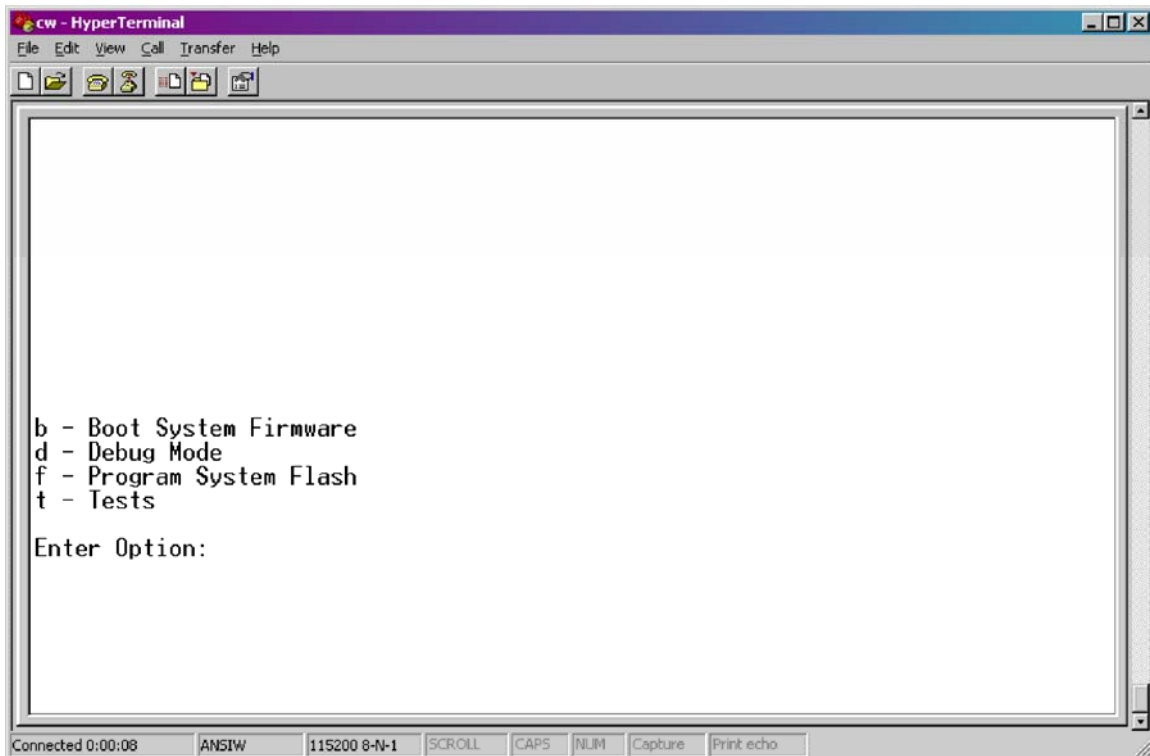
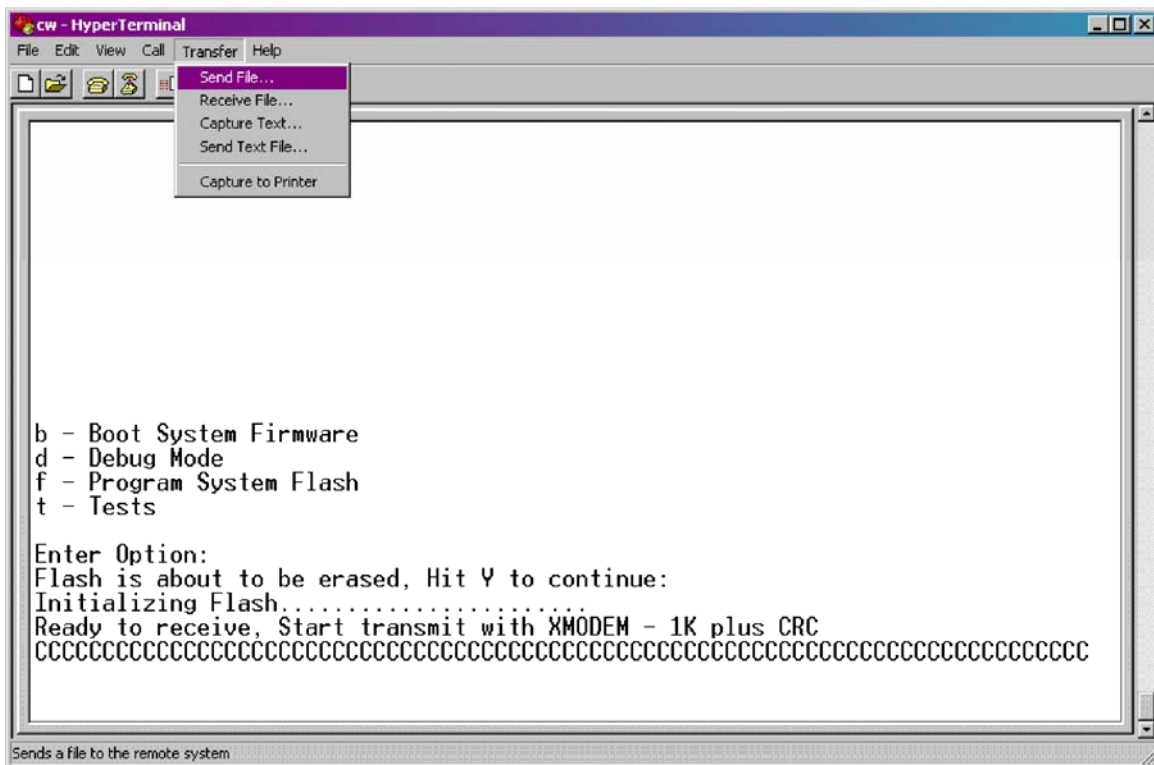
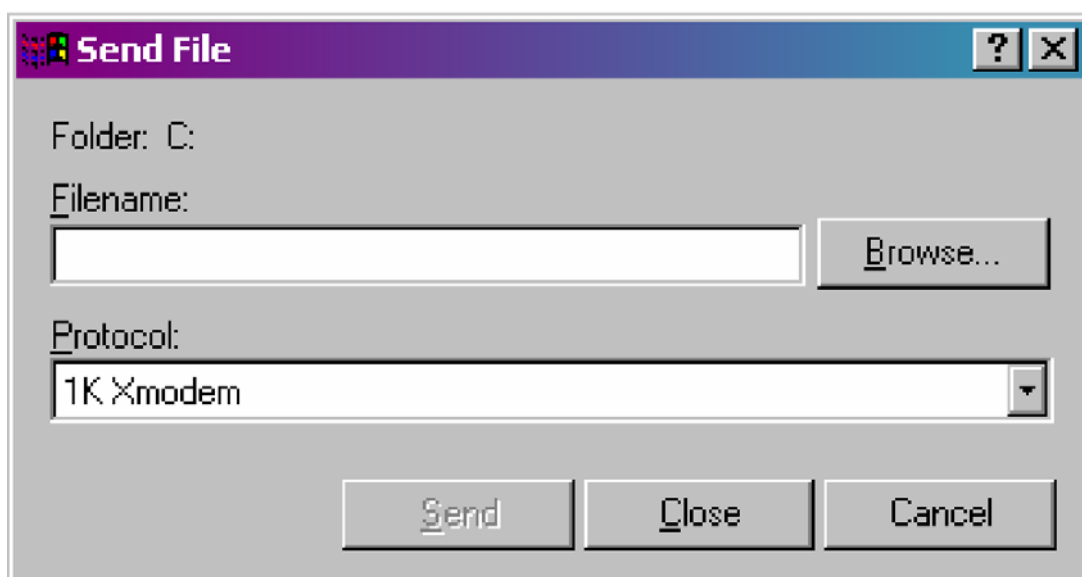

Figure 2-27 - HyperTerminal Recovery Mode Menu
**Figure 2-28 - HyperTerminal FLASH Download Menu
**Figure 2-29 - HyperTerminal Flash Download
4. From the HyperTerminal Recovery Mode menu (Figure 2-27), press the 'F' key, to enter FLASH download. A message will be displayed warning that the FLASH is about to be erased; press the 'Y' key at the prompt. The screen will display dots as the flash devices are being erased; this could take a few minutes.
5. When the FLASH is ready for download the letter C will be displayed on the screen. In the HyperTerminal command bar click on Transfer and then Send File...(see Figure 2-28). In the Send File Dialog Box (see Figure 2-29), select "1KXmodem" for the protocol, enter the filename of the appropriate .bin file in the format "CWPxxxxx.bin" (where xxxxx varies from release to release). Click on the Send button to start the download (see Figures 2-29 and 2-30). When the HyperTerminal Recovery Mode Menu of Figure 2-27 appears, the download has completed.